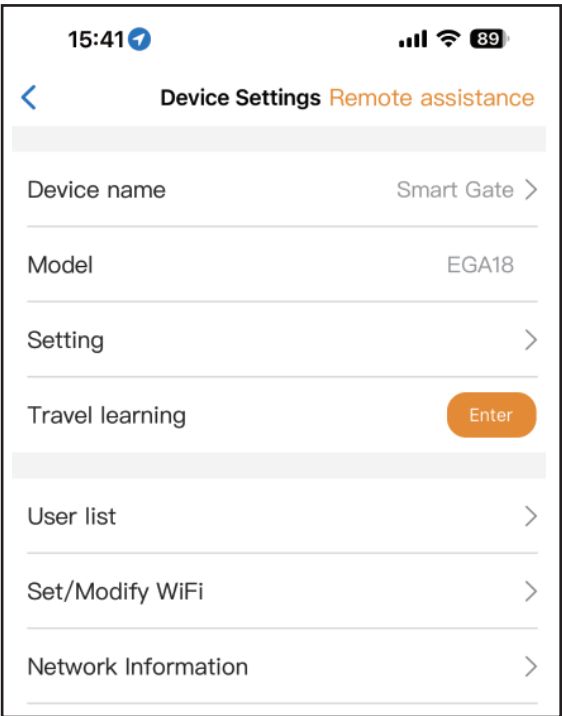

Fig 11
Step 1. Select the device, press the “⚙️” on the top right corner. Click the “ Setting”. (Fig 11)